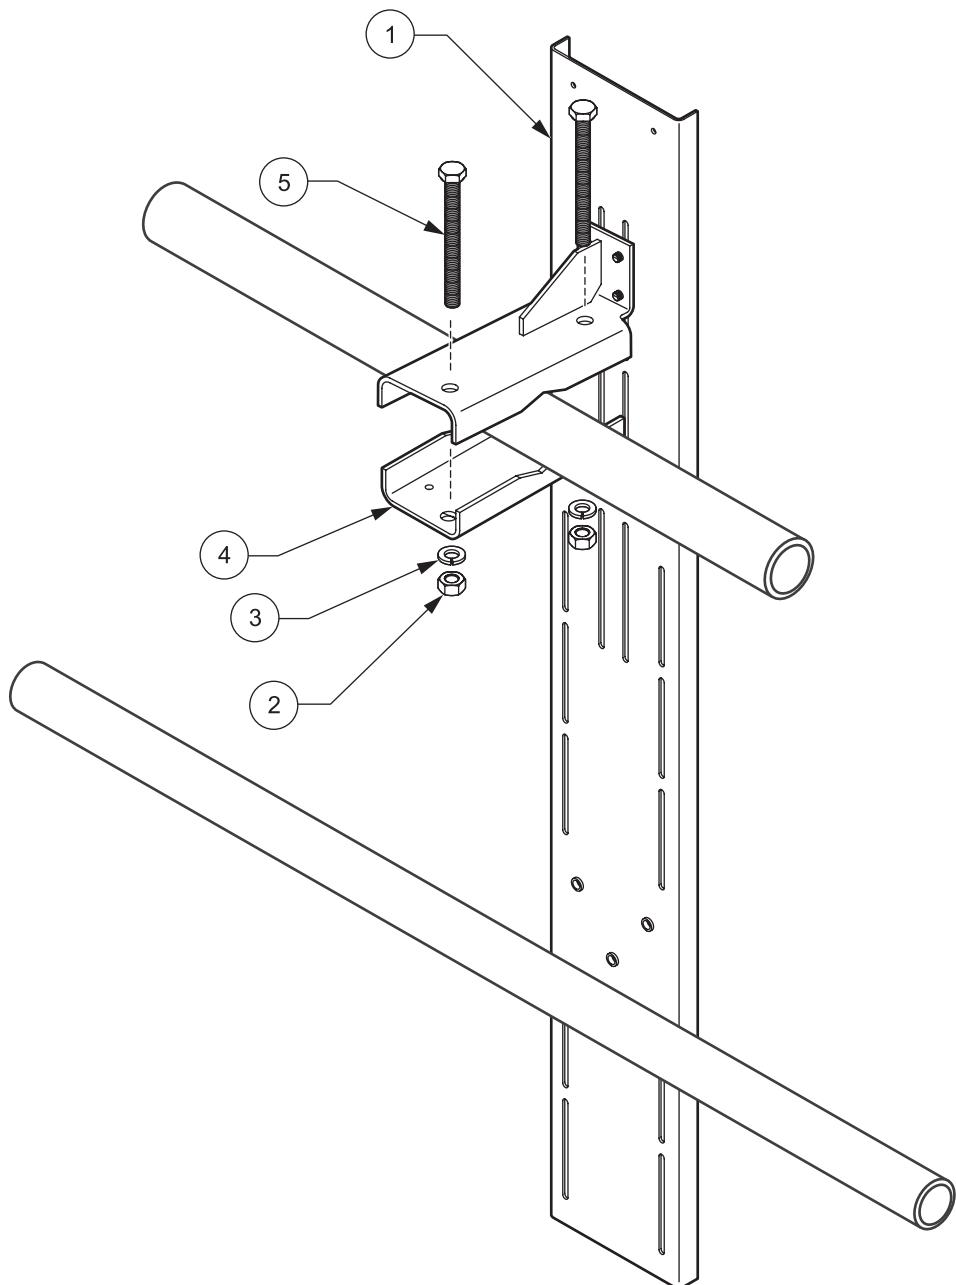

Figure 8 Installation of the angle bracket on the top rail
4. Loosely screw a U profile to the angle bracket using the M8X120 screws, spring washers and M8 nuts (see Figure 8 on page 9).